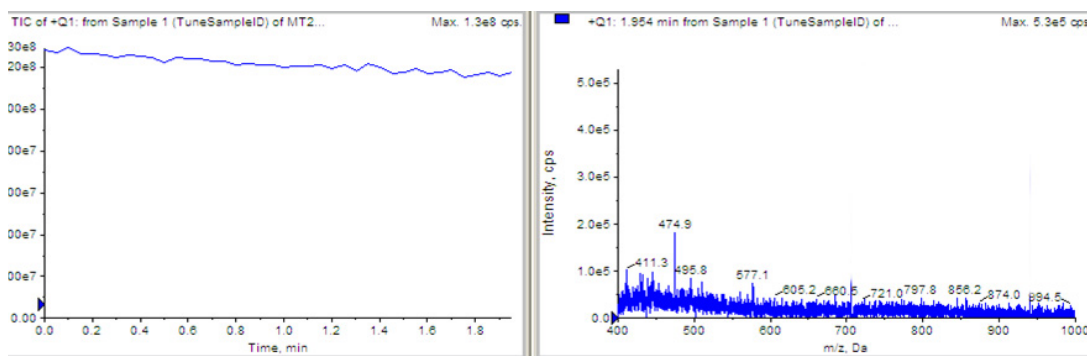

Figure 1-22 Analyst TOF MS scan for background noise
- Stable spray appears as shown in Figure 1-22.